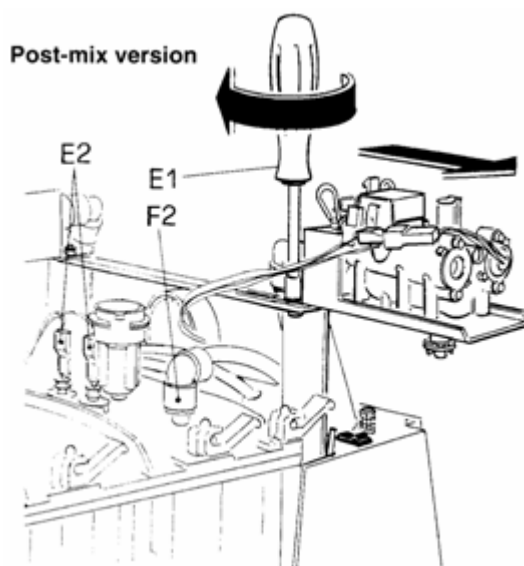

Fig. 19
4. Disconnect the probe fastenings E2 (fig.19).
5. Now rotate the valve assembly 90 degrees and slide to the outside of the machine. Tighten the 8mm nut using a socket wrench E1 (fig.19).